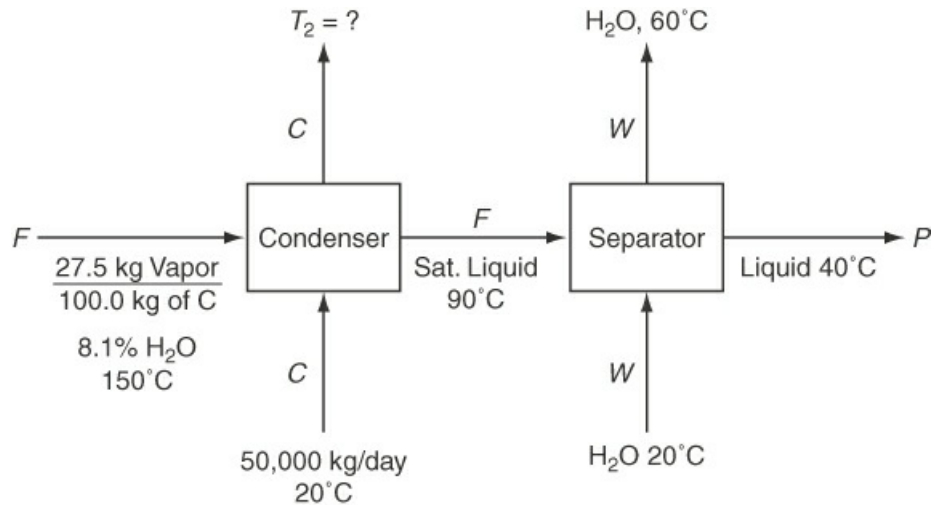

Figure P8.4.28
**** 8.4.28** A process involving catalytic dehydrogenation in the presence of hydrogen is known as *hydroforming*. Toluene, benzene, and other aromatic materials can be economically produced from naphtha feedstocks in this way. After the toluene is separated from the other components, it is condensed and cooled in a process such as the one shown in Figure P8.4.28. For every 100 kg of C charged into the system, 27.5 kg of a vapor mixture of toluene and water (8.1% water) enter the condenser and are condensed by the C stream. Calculate (a) the temperature of the C stream after it leaves the condenser, and (b) the kilograms of cooling water required per hour.